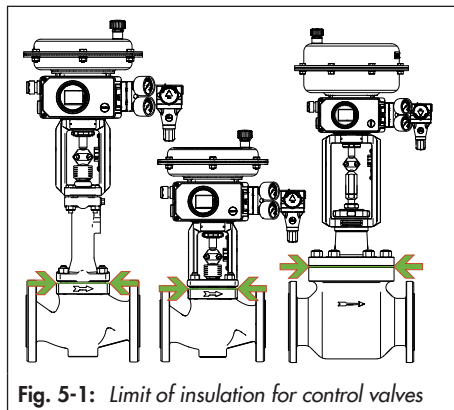

Fig. 5-1: Limit of insulation for control valves
- Only insulate control valves up to the bonnet flange of the valve body (see Fig. 5-1). This also applies to versions with bellows seal or insulating section at medium temperatures below 0 °C or above 220 °C. If the insulating section is insulated, it will not function properly.